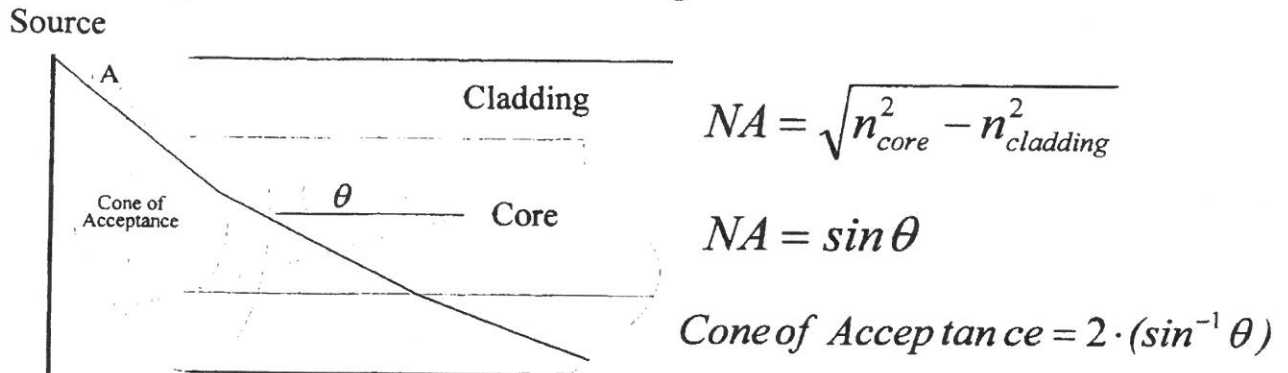

Figure 4.3 Cone of Acceptance and Numerical Aperture in Optical Fiber
The **core material is made with a higher refractive index than the cladding**, causing the light to be **totally reflected** at the core-cladding boundary for all light that strikes the boundary above a certain angle. This is the previously mentioned **critical angle**. We will take a closer look at the optical fiber input to see how this works. Refer to Figure 4.3.
Rays of light that are launched into the core at too steep an angle (**A**) will **not be reflected** at the core-cladding boundary. This light energy will pass into the cladding and be lost. Any rays of light that enter the core within the “**Cone of Acceptance**” will strike the core-cladding boundary above the critical angle and **be reflected** back into the core. This light gathering ability of a fiber is referred to as the **Numerical Aperture (NA)** and is a function of the difference in the refractive indices between the core and cladding (refer to formulas in Figure 4.3). The greater the difference between the refractive indices, the larger the NA and the “Cone of Acceptance”. Formulas are shown for explanatory purposes only.